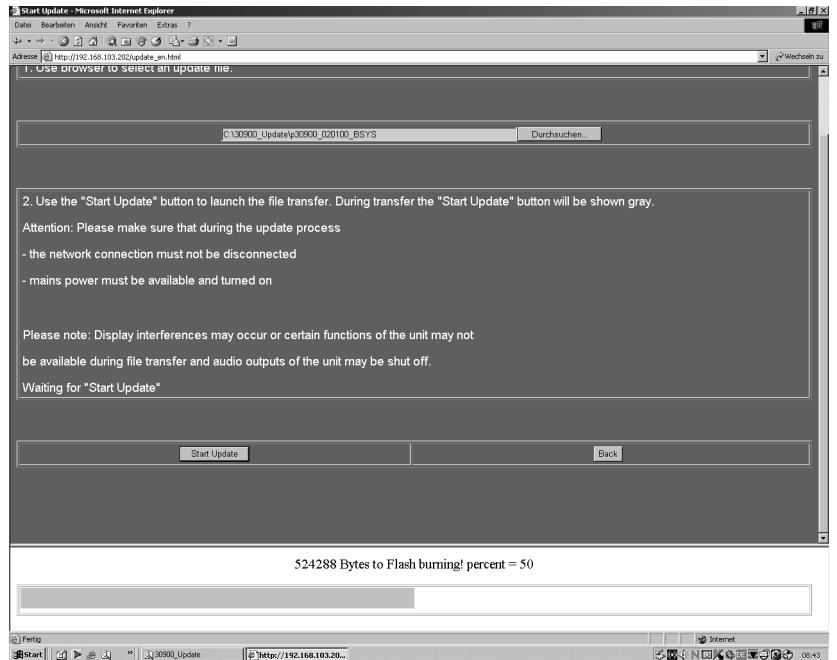

Fig. 5-15: Progress of the data transfer of the selected update file
7. A bar on the lower end of the update window on the PC reads the data transfer progress (see Fig. 5-15).